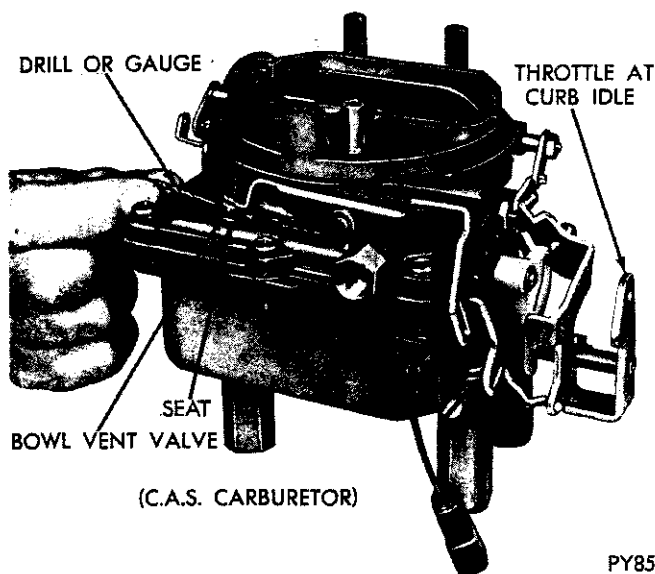

Fig. 25—Bowl Vent Adjustment
(1) With curb idle speed adjusting screw at curb idle, there should be 5/64 inch clearance between bowl vent valve and seat on air horn when throttle valves are closed. (Fig. 25).
(2) If an adjustment is necessary, bend tang on accelerator pump rocker arm, using Tool T109-41, until